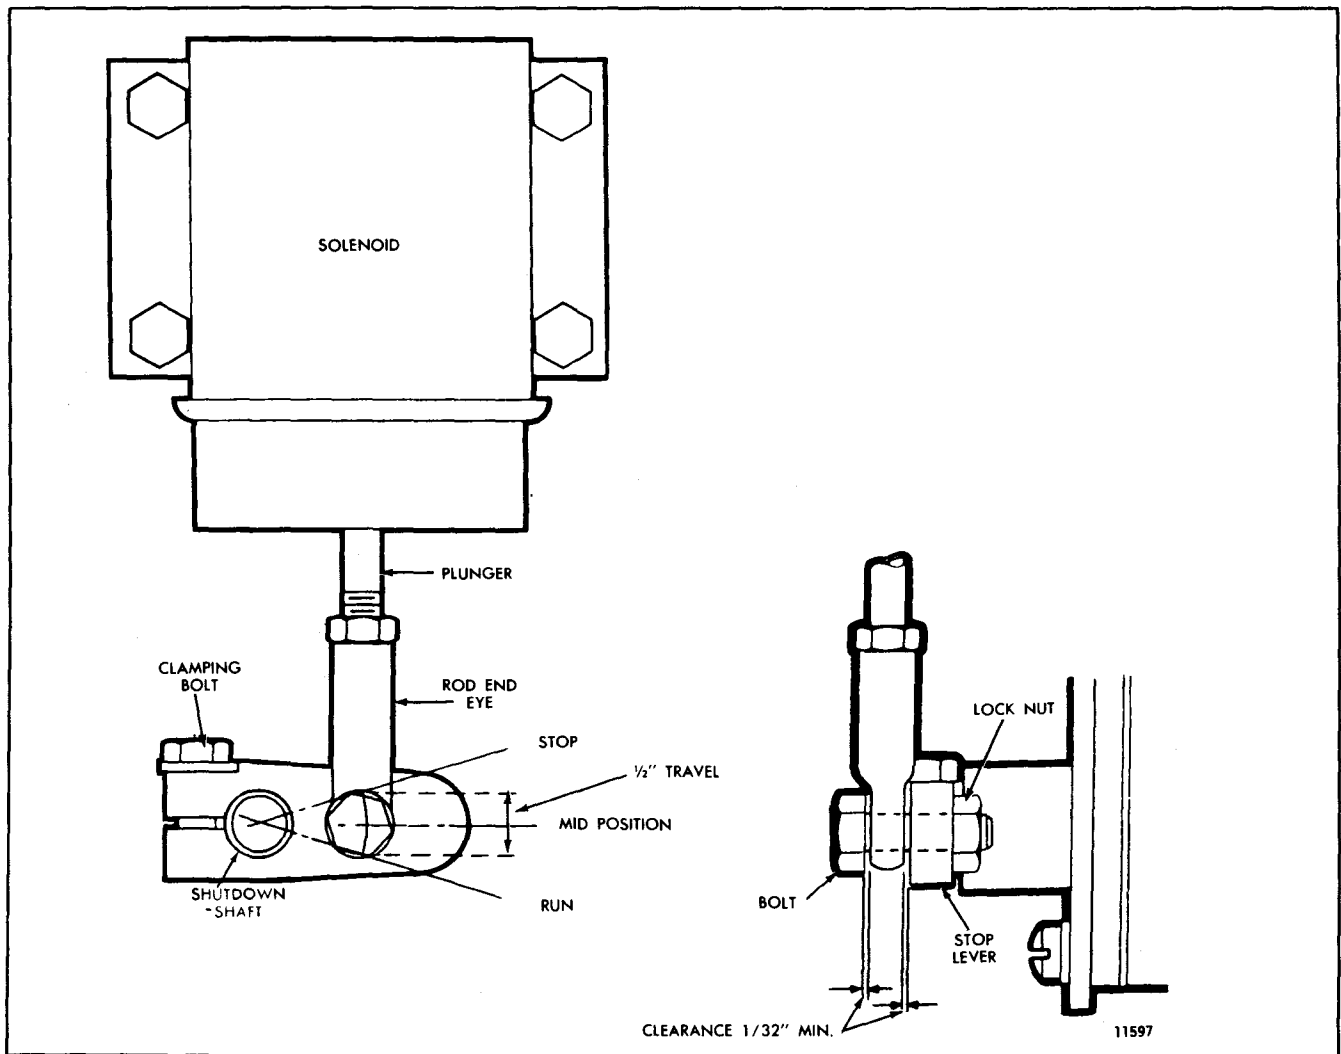

Fig. 9 - Typical Variable Speed Governor Lever Position
1. Remove the bolt connecting the rod end eye (variable speed governor) or the right angle clip (limiting speed governor) to the stop lever (Figs. 9 and 10). Align and clamp the lever to the shutdown shaft in such a way that, at its mid-travel position, it is perpendicular to the solenoid plunger. This assures